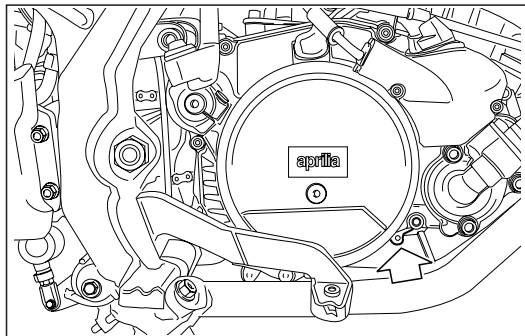

Fig. 66
- ◆ Put a container, with at least 1,5ℓ capacity, under the drain screw (Fig. 66).